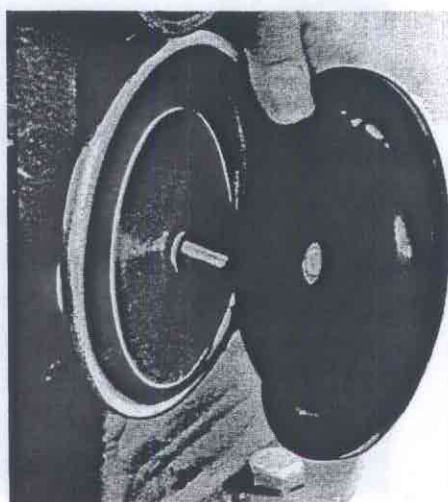

Fig. 43-26. Remove diaphragm
4. Remove the nut on the pull rod. Remove the diaphragm and the washers, see Fig. 43-26. Take care of the washer in the centre of the diaphragm.
6. Fit the diaphragm and place the spacer washer in the centre of the diaphragm, see Fig. 43-26. Fit the outer washer and lock nut. Hold the diaphragm and washer when tightening up the nut.